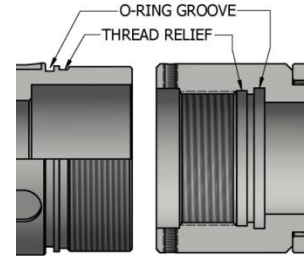

Fig. 2
**CAUTION6:** To ensure tool operates properly, install o-rings in o-ring grooves **NOT** thread reliefs unless stated otherwise (Fig. 2).